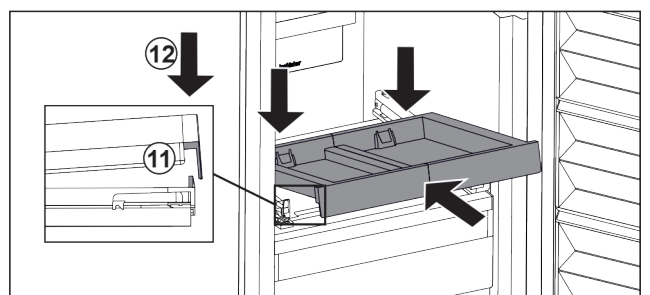

Fig. 99
- ▶ Slide in at an angle. Make sure that the stop is behind the lug on both sides. Fig. 99 (11)
- ▶ Lower the pull-out board at the front. Fig. 99 (12)